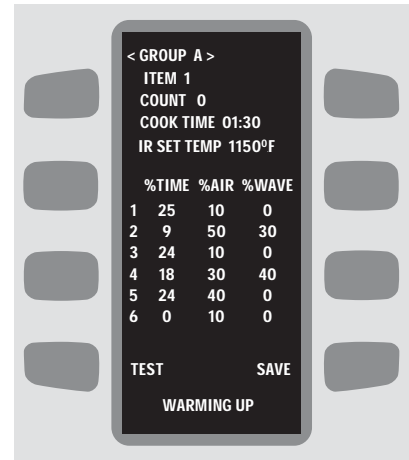

FIGURE 23: Edit Recipe Screen
7. Adjust the following components of a food item (see Figure 23 - to navigate from field to field, press the UP or DOWN key):